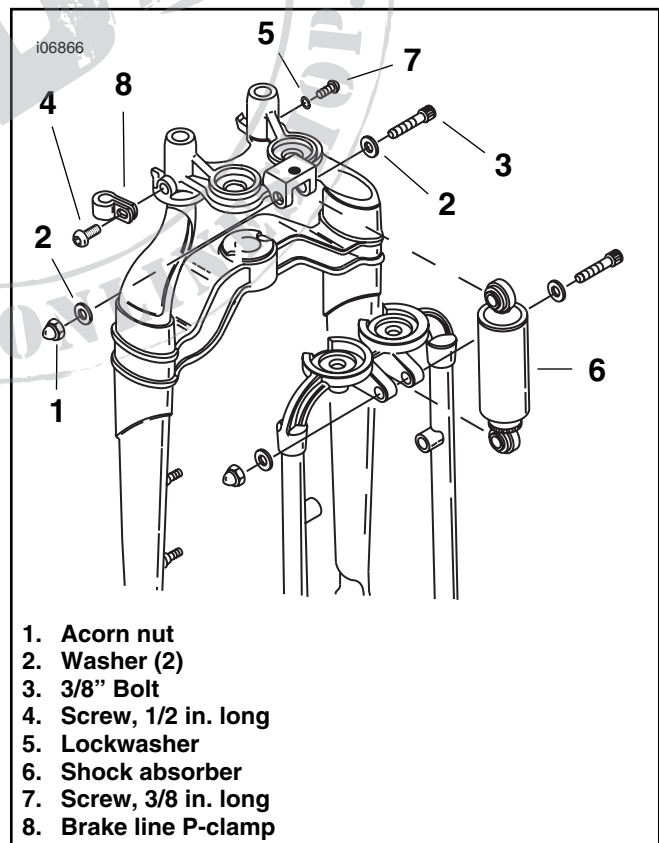

Figure 1. Mounting Hardware
1. See Figure 1. Remove the socket head screw (4) and the brake line P-clamp (8) from the right side of the rigid fork. Save the P-clamp.
2. Remove the socket head screw (7) and external-tooth lockwasher (5) from the left side. Save the screw.
3. Remove the original acorn nut (1), a flat washer (2) and bolt (3) holding the upper shock absorber. Save the washers and the acorn nut.